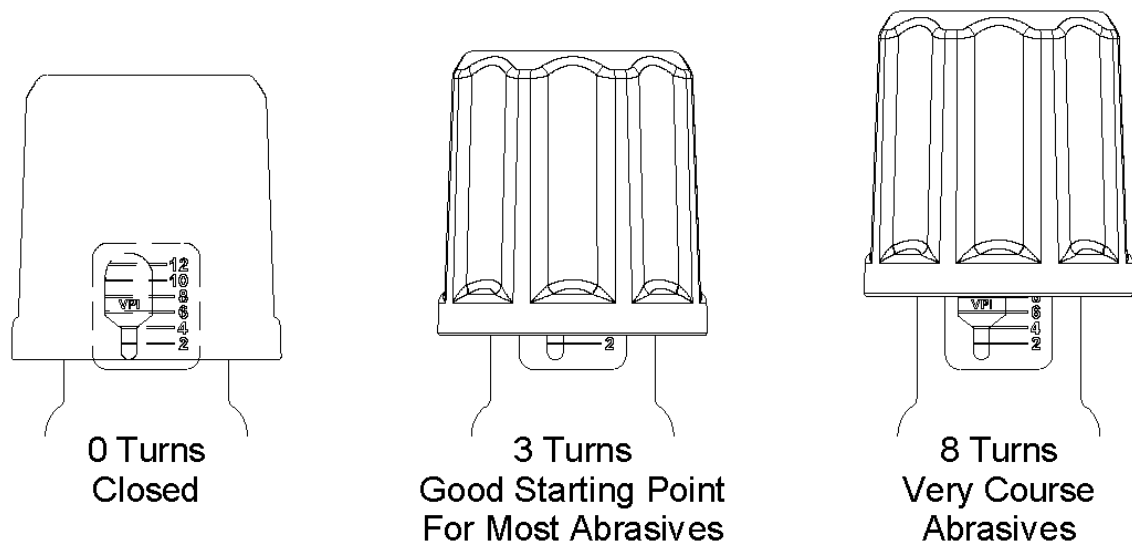

Figure 7.2 – PicoValve VPI Detail
- 7.2.5. For initial startup, the PicoValve (#14) should only be partially open. Turn the valve knob clockwise to completely close, then turn counterclockwise about three turns to partially open. The best setting for the valve varies depending on abrasive type, blast pressure, and nozzle size; therefore, it may take more than one adjustment to achieve the desired air/abrasive mixture. Further adjustment can be made later as needed. See Figure 7.2.
- 7.2.12. Note the orifice indicator (VPI) on the side of the PicoValve (#14) body to view the knob position relative to the abrasive flow. The VPI position can be used as reference when changing nozzle size or abrasive for different applications. See Figure 7.2.